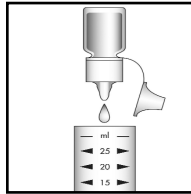

Figure 1
2. Add **10 drops** of A-6500 Activator Solution (fig 1). Stir briefly to mix the contents of the cup.